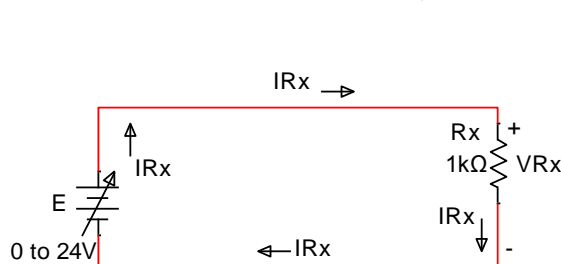
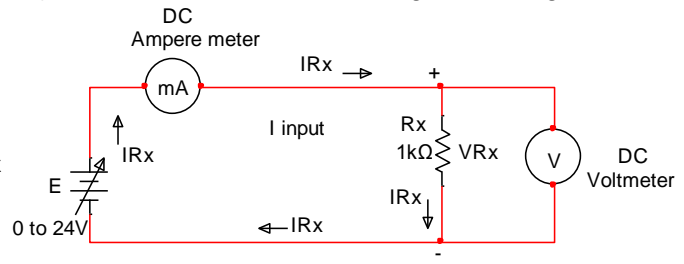
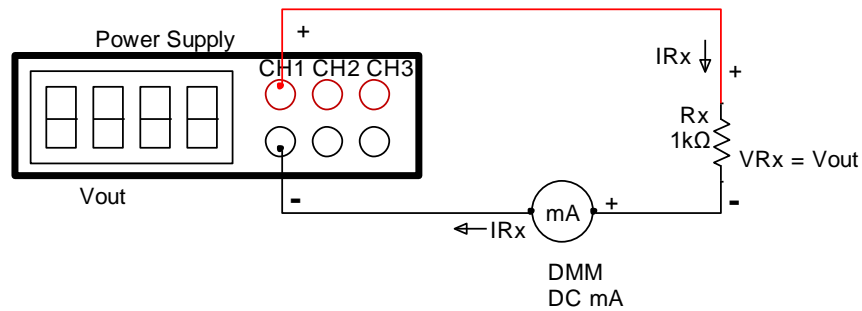

Figure 1a. A simple circuit
Figure 1b. Setup for measuring V_{RX} and I_{RX}
Figure 5. Measurement Setup
Consider a simple circuit, as shown in Figure 1a. To verify the Ohm's law through measurements, we will setup a circuit similar to Figure 1b as the following:
To conduct the measurement using the circuit as shown in Figure 1b, we will need to use two DMMs one setup as voltmeter and another one as ammeter. Or alternatively, we can use just one DMM as DC mA meter, as shown in Figure 5, the voltage measurement can be provided through the voltage display available from the power supply.
- Connect the circuit as shown in Figure 5.